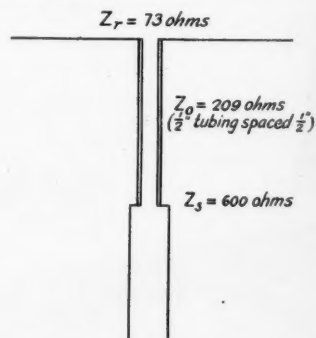

Fig. 5 — The "Q" matching section used between a half-wave antenna and a 600-ohm line.
In the case of an antenna system (see Fig. 5) Z_o is the characteristic impedance of the transmission line, Z_r is the impedance of the antenna, and Z_o is the characteristic impedance of the quarter-wave matching section. If l had been assigned a length of $3\lambda/4$, $5\lambda/4$, or any odd quarter wavelength, the result would have been the same as that of equation (15) — in other words, any odd quarter wavelength of line may be used as an impedance-matching transformer.